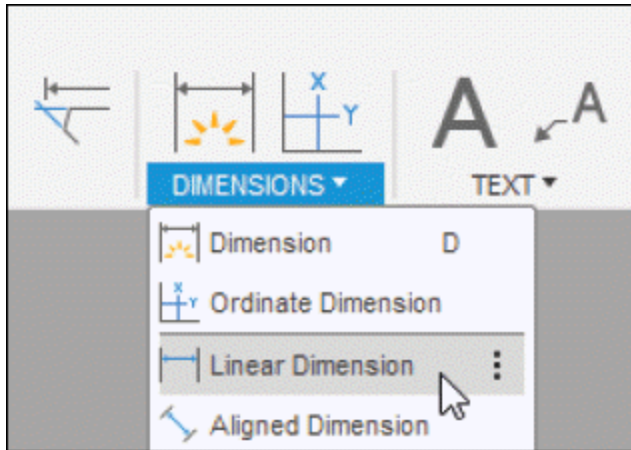
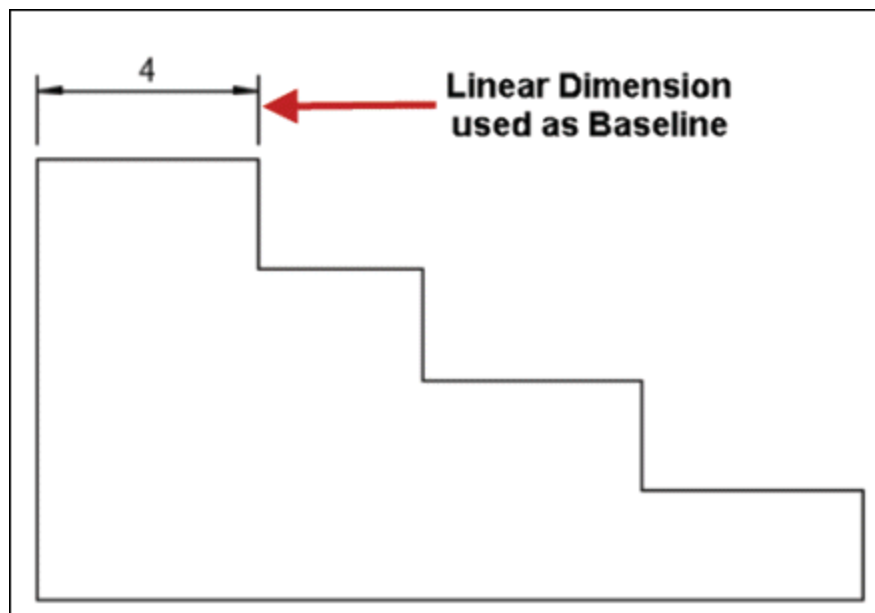

Figure-63. Linear Dimension tool
Figure-64. Linear dimension used as baseline
- Click on the **Linear Dimension** tool from the **DIMENSIONS** panel of **Toolbar**; refer to Figure-63, and create a linear dimension which will be used as base line; refer to Figure-64.